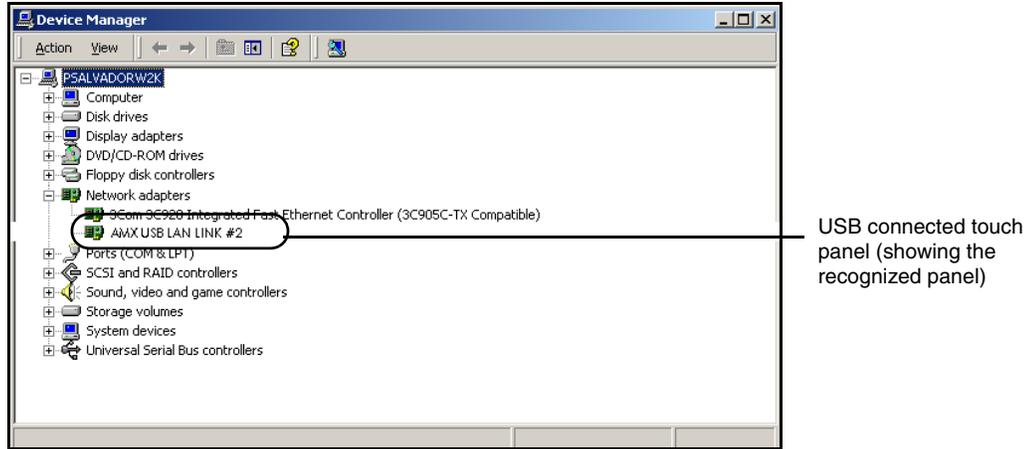

FIG. 52 Device Manager dialog showing USB device
- Within the *Device Manager* dialog, the AMX USBLAN device appears under Network Adapters (FIG. 52) and has a unique name such as AMX USB LAN LINK #2. The number changes depending on which recognized panel is currently connected.